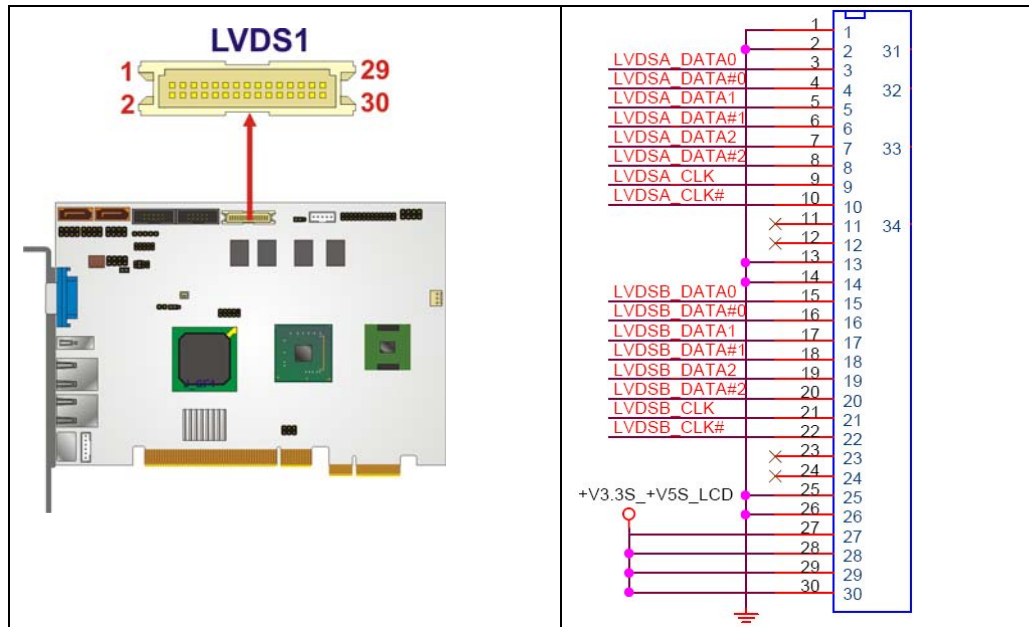

Figure 4-12: LVDS LCD Connector Pinout Location
CN Location: See Figure 4-12
- CN Location:** See **Figure 4-12**